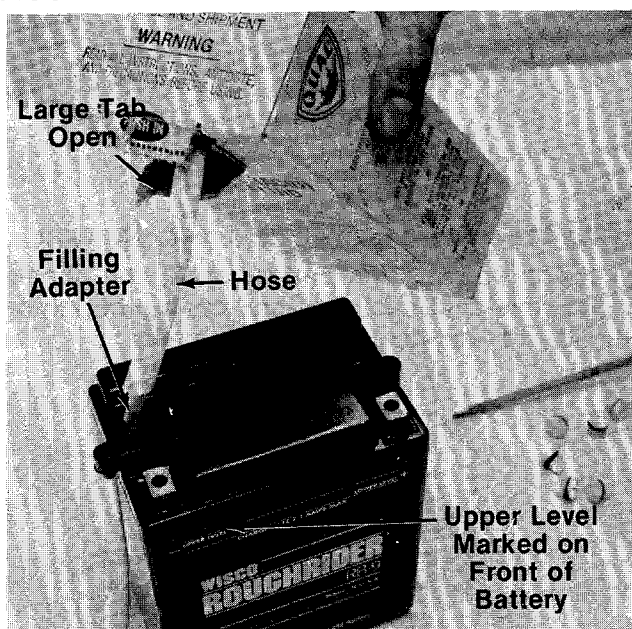

FIGURE 7.
6. Pull out hose from package and hold upright. Squeeze hose forcing all acid back into package. Cut off tip of hose and insert filling adapter. See figure 7.
7. Fill each cell to upper level marked on front of battery. Reassemble fill caps to battery. See figure 7.